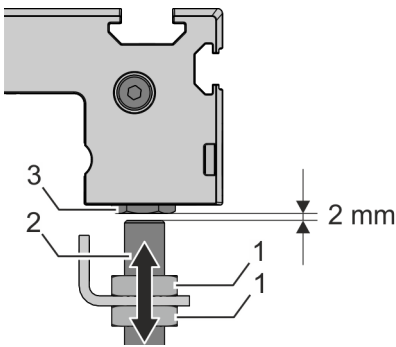

Fig. 40: Adjusting the operating distance
4. ➤ Use the hexagon nuts (Fig. 40/1) to set an operating distance of 2 mm between the inductive limit switch (Fig. 40/2) and the roller bolt (Fig. 40/3).